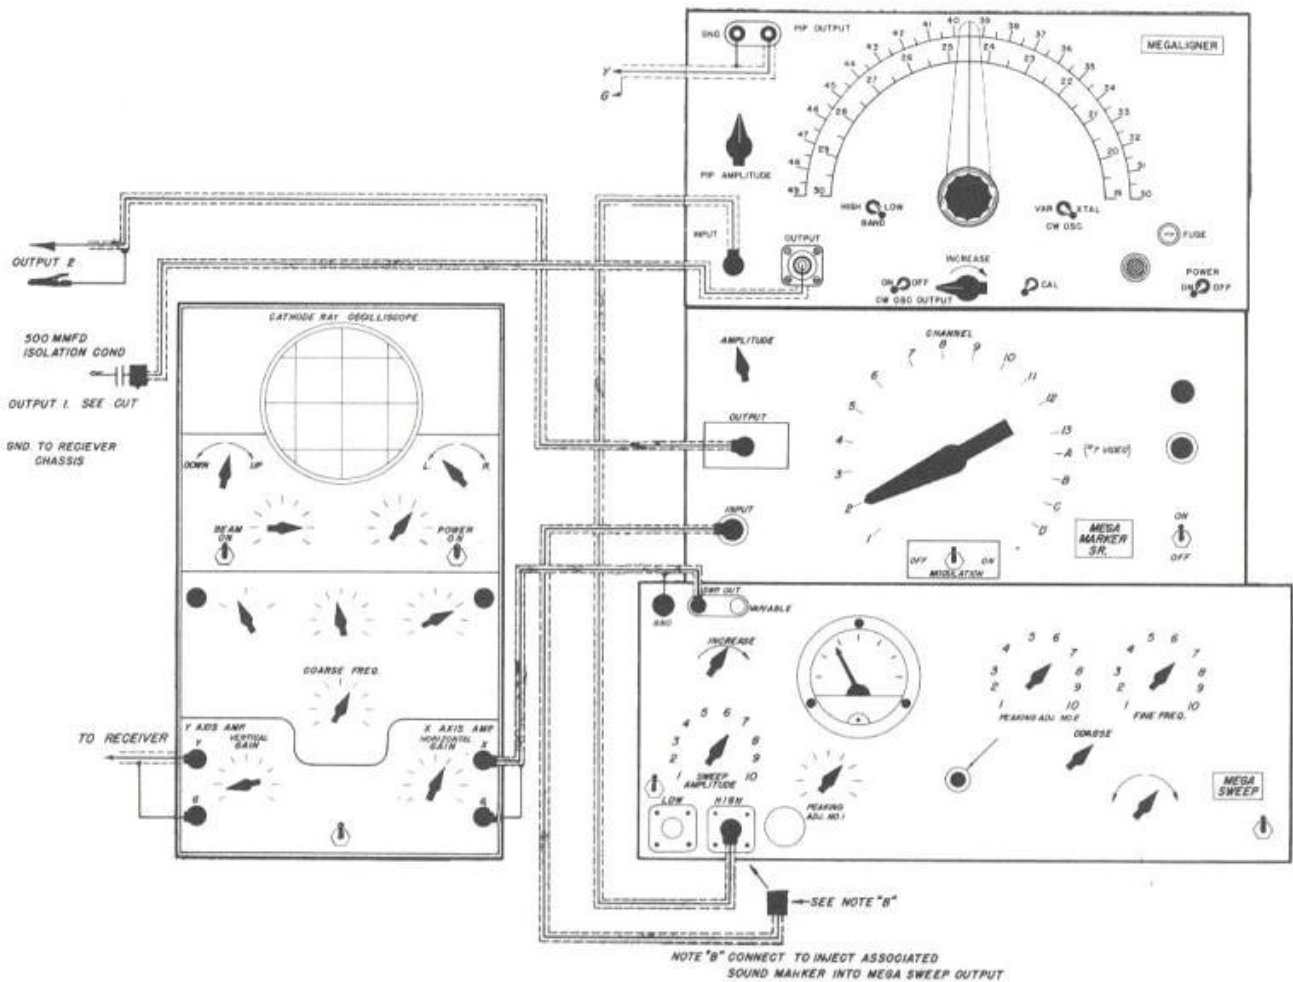

Fig. 28 Test Equipment and Connectors.
Fig. 28 shows the recommended method of connecting the test equipment. A bond should be connected between each unit and to the receiver under test. In order to prevent damage to the Mega-Sweep crystal, always connect this common bond lead to the receiver chassis before the output cable connections are made to the receiver alignment points.
2. Feed output #2 (See Fig. 28) through a S-15369 matching transformer to the antenna terminals of the receiver.